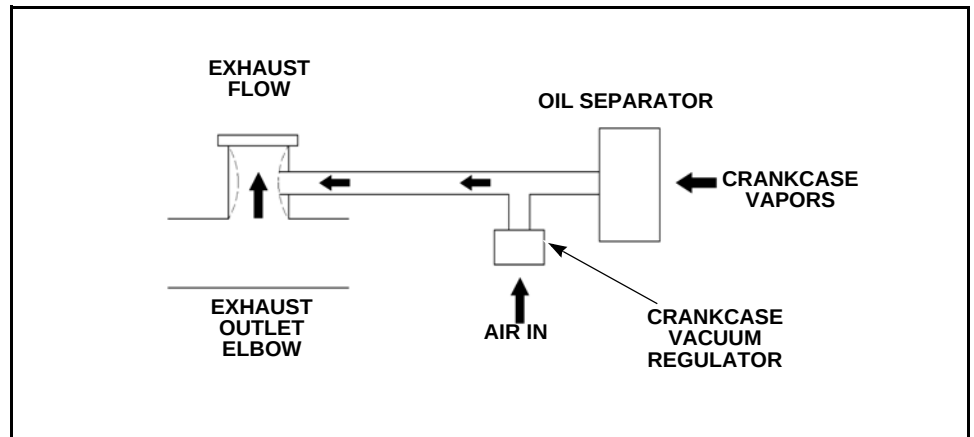

Figure 5-9 GSI System
- A venturi is placed downstream of the turbocharger in the exhaust system to create a vacuum which draws the vapors into the exiting exhaust gas stream, see Figure 5-9 below. This type of breather system is common for the rich-burn turbocharged engines.